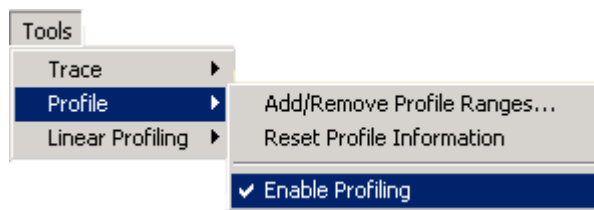

Figure 3-7. Tools Menu: Enable Profiling for `a_dot_c`
1. From the Tools menu, choose Profile and then choose Enable Profiling, as shown in Figure 3-7.